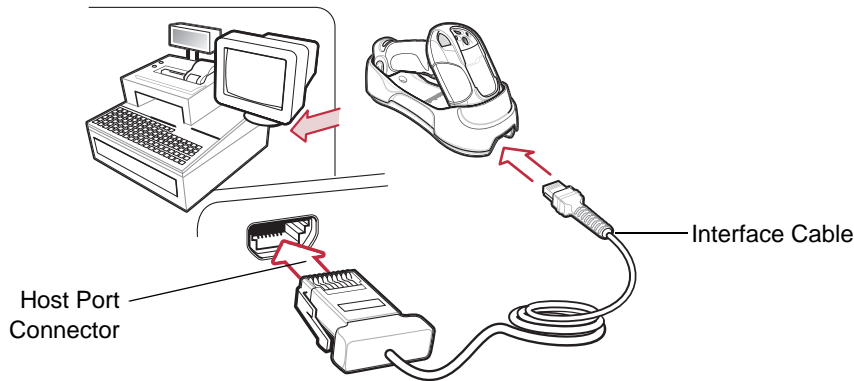

Figure 8-1 IBM Direct Connection
- ✓ **NOTE** Interface cables vary depending on configuration. The connectors illustrated in Figure 8-1 are examples only. The connectors may be different from those illustrated, but the steps to connect the scanner cradle remain the same.